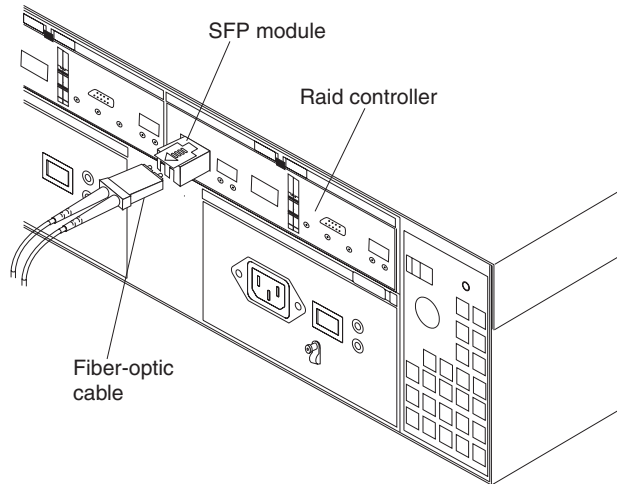

Figure 49. Location of SFPs and fiber-optic cables
6. From the first RAID controller to be upgraded, remove the fibre-channel cables from the SFPs. The location of these components is shown in Figure 49 on page 66.